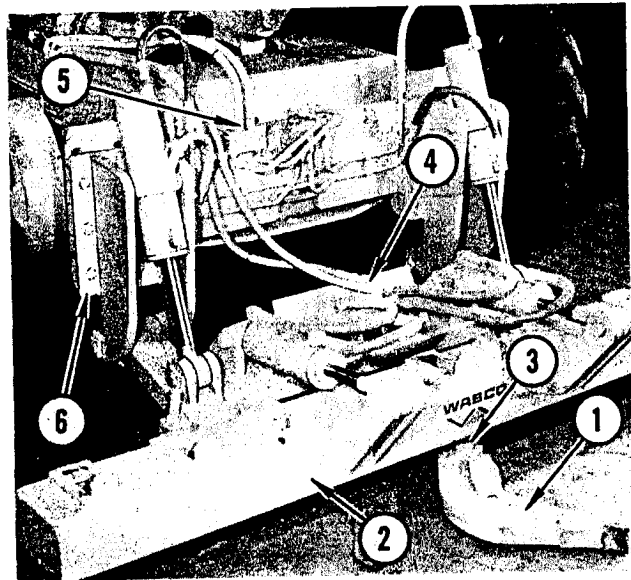

FIGURE 1. RIPPER-SCARIFIER REMOVAL
Remove all shanks (1) from the block (2). NOTE: To remove shank, raise point end of shank and remove lock wedge (3) from top of shank and block; then remove shank. Figure 1.